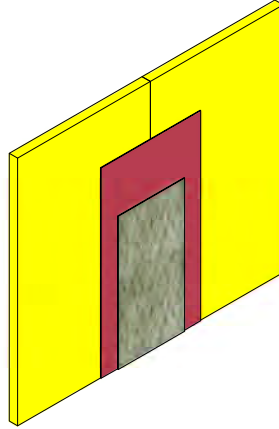

Figure 19
2. Remove the backing from the WS FLASH 4 or 9. Using a roller firmly press the WS FLASH over the joint ensuring it is well and evenly adhered. The joint is now ready to receive the final coat of SENERSHIELD-R or SENERSHIELD-VB. (See Figure 19)